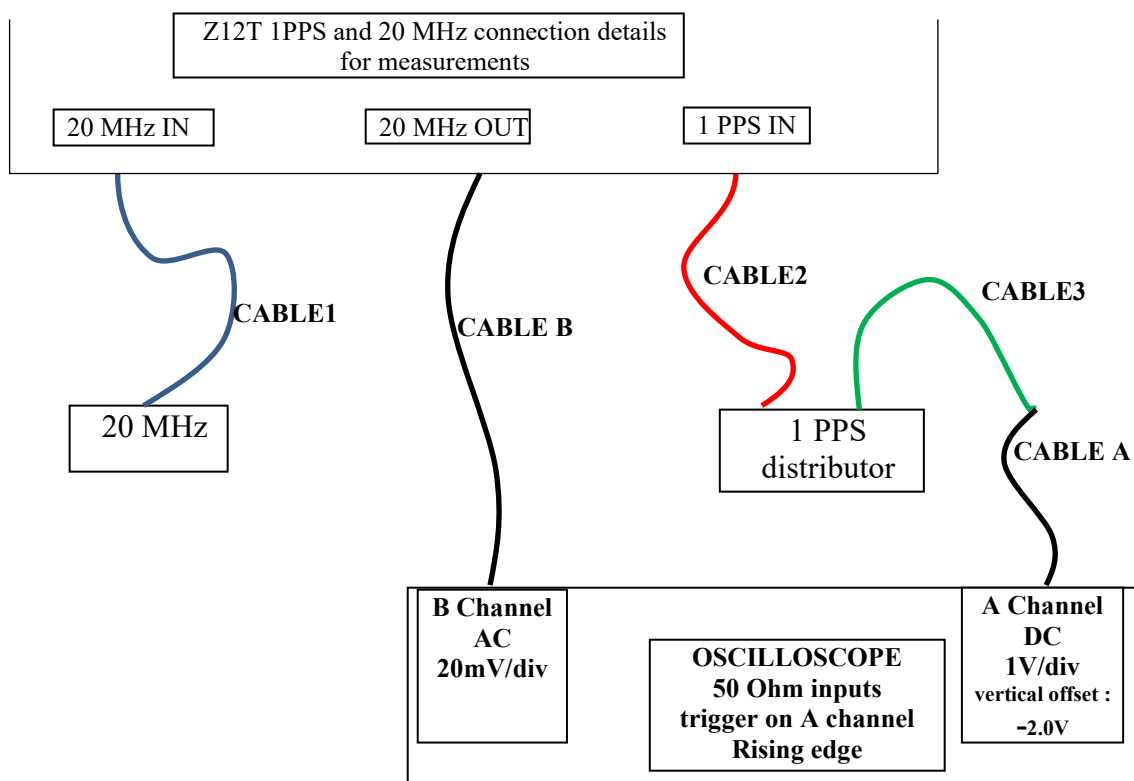

Figure 8. Second setup for Measurement 2). Note the use of phase matched cables (A and B)
- b. This measurement needs the set-up shown in Figure 8. Note the use of two phase-matched cables (cable A and Cable B) provided by BIPM.